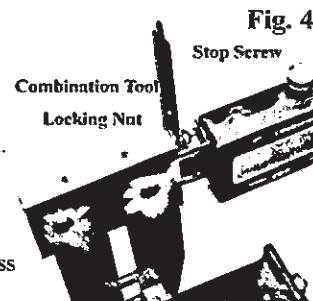

Fig. 4
3.2.8 Using the combination tool provided, loosen the Locking nut (fig.4.) and turn the Positive stop screw in or out until the display reads exactly $-4.000 \pm .001$ in. Press the zero button to zero the display.